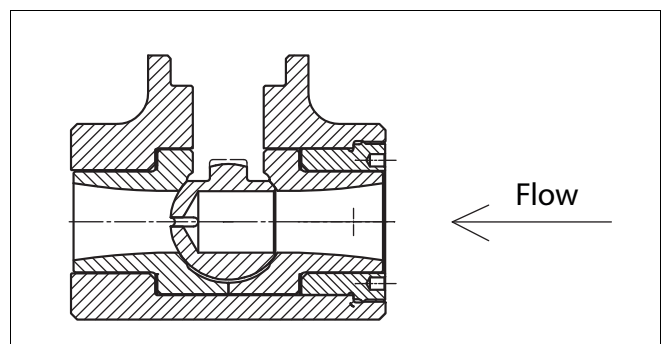

Fig. 8
2. Detach the actuator from the bracket (5) by unscrewing the fixing screws.
3. Pull the actuator off the shaft by using a special extraction tool, Figure 8. Prevent the shaft from pressing the ceramic ball when removing, e.g. by gripping the shaft with self-locking pliers (don't damage the shaft) .